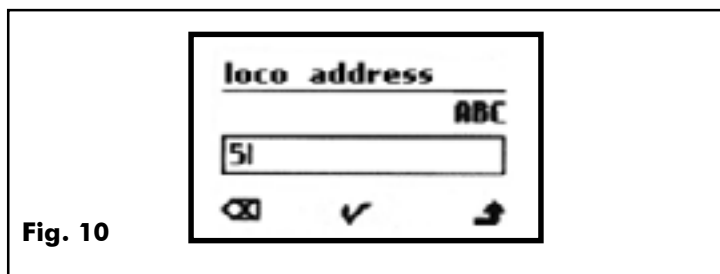
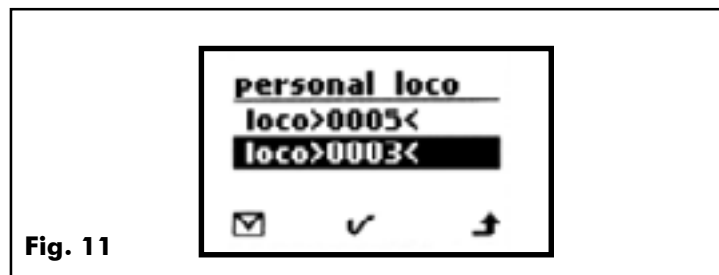

Fig. 10
Fig. 11
- BStart typing the desired address. As soon as you have entered the first digit, a window appears (Fig. 10).
If you want to run an engine the selection always starts with the „Engine“ button. When you press this button, the „Top Ten“ list will be displayed (Fig. 10). Use the speed control wheel to highlight and select the desired engine. Should the required engine not be listed press the left selection button to open the „My Engines“ list (Fig. 11). Press the left selection button once more to open the „Received Engines“ list, provided there are any engines in this list. If not, the „Top Ten“ list will reappear. Pressing the speed control wheel confirms your selection. If you want to cancel this procedure, pressing the right selection button will take you back.